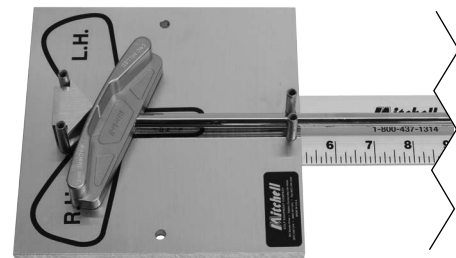

Fig. 1
- 2** Lay club head face down on **Sole Plate** with shaft between the two **Shaft Pins** and club head flush against **Sole Centering Pins**. For putters place **Putter Sole Adapter** between **Sole Centering Pins** so the point faces the **Ruler**. Putter sole should touch point of **Putter Sole Adapter** (See Fig. 1). Butt of shaft should rest in center of the **Ruler**.
- 1** Lay club head face down on **Sole Plate** with shaft between the two **Shaft Pins** and club head flush against **Sole Centering Pins**. For putters place **Putter Sole Adapter** between **Sole Centering Pins** so the point of **Putter Sole Adapter** faces the **Ruler** (See Fig. 1). Grip should rest in center of the **Ruler**.